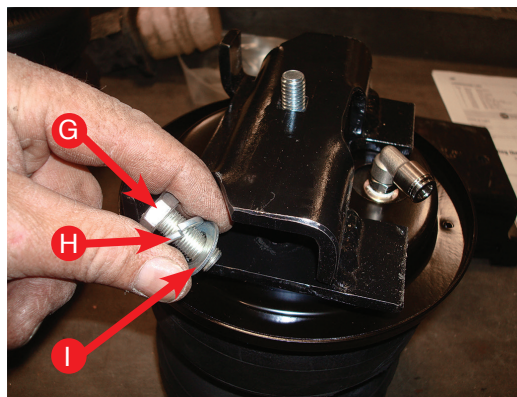
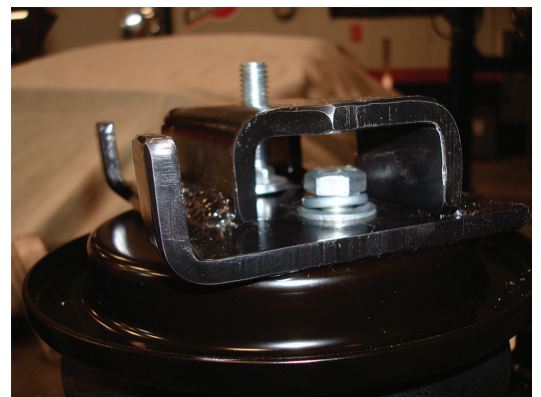

fig. 10
fig. 11
3. Set the brackets on both air spring assemblies and attach with 3/8-16 X 7/8" hex cap screws (G), 3/8" lock washers (H) and 3/8" flat washers (I). Leave loose at this time (fig. 10). Figure 11 shows the upper air spring assembly.